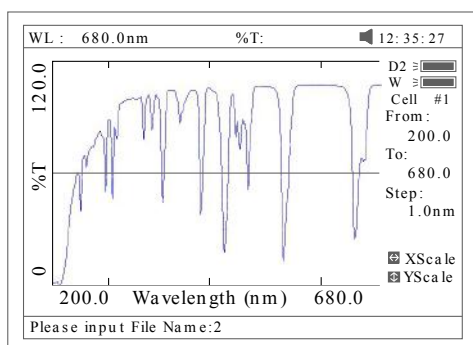

Fig 15
- ◇ Name the curve by pressing the numeric keypad (Fig 15), press the key **[ENTER]** to confirm.